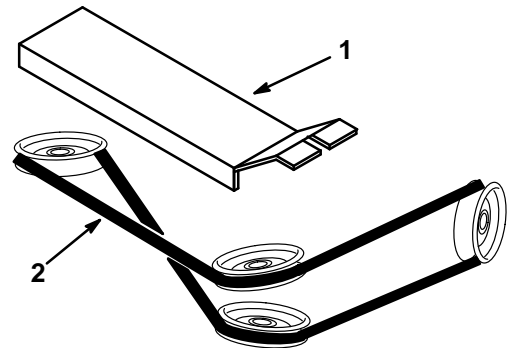

Figure 23
1. Remove the belt covers and note the belt routing (Fig. 23).
2. Remove the worn drive belt (Fig. 23).
3. Install the new belt and belt covers as outlined in Installing the Blower on page 8 (Fig. 23).